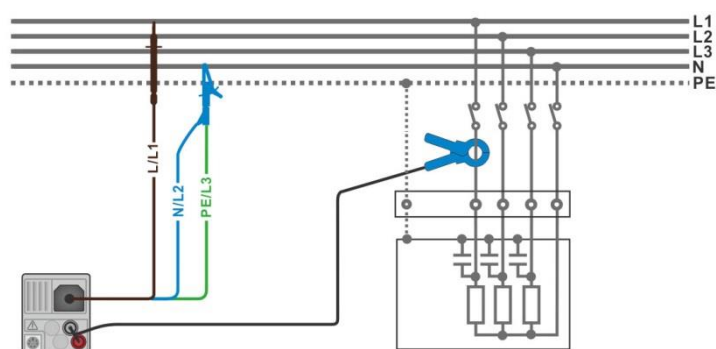

Figure 7.77: Power measurement
- › Connect the voltage test leads and current clamp to the item to be tested (see **Figure 7.77**).